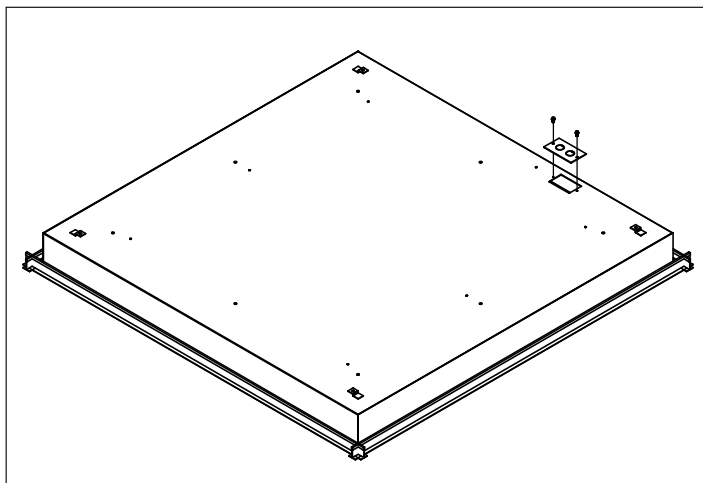

Figure 3
3. Remove Access Cover Plate and make all necessary electrical connections. (Fig. 3)